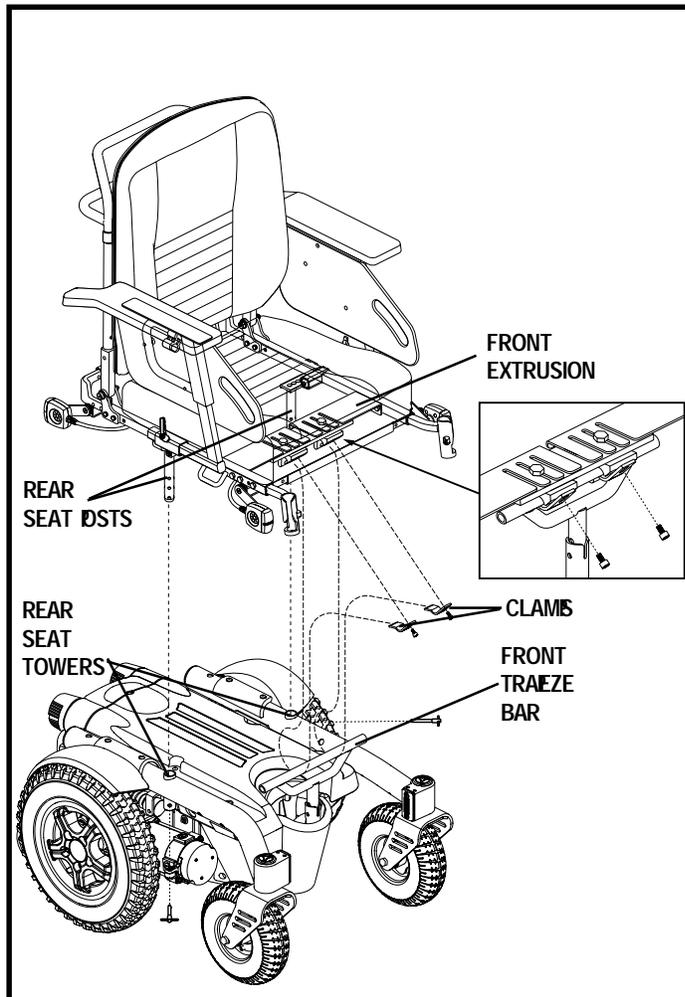

Figure 12. Seat Installation
1. Install the rear seat posts into the rear seat towers. See figure 12.
2. Lower the front extrusion onto the front trapeze bar. See figure 12.
3. Insert the clamps as shown in figure 12.
4. Install the hardware as shown in figure 12.